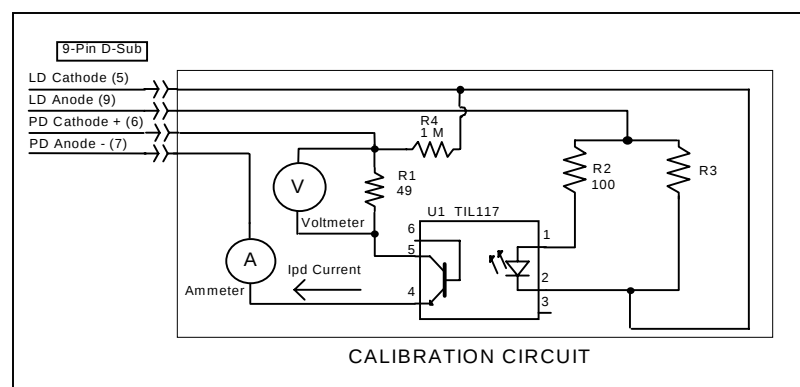

Figure 5.1 I_{PD} Calibration Circuit
It will be necessary to connect various loads and circuits to the outputs of the module for the calibration procedure. The devices required for most of the calibration loads are listed in Table 5.2. A schematic is shown in Figure 5.1 for the photodiode calibration circuit, with the required components listed in Table 5.3.
See schematic in Figure 5.1
- 1 With the output off, connect the IPD calibration circuit, Figure 5.1, to the appropriate laser connector.
- 2 Connect an ammeter with at least 5000 μA range and at least $\pm 0.1 \mu A$ accuracy as shown in Figure 5.1. This ammeter is in series with the Photodiode Anode input to the module, and directly measures the photodiode current.